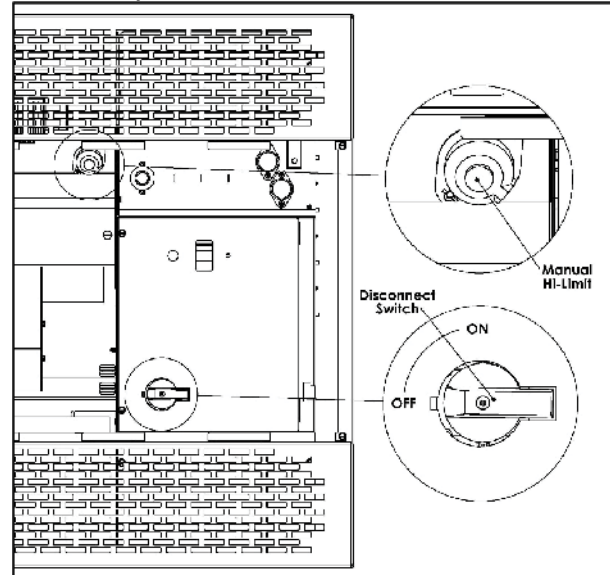

Figure 5
- c. Press the limit firmly until you hear a click (see Figure. 5).
Disconnect Switch - If installed, the disconnect can be used to power off the rest of the heater without cutting power at the main service panel. It is located under the front panel in the controls section of the heater (see Figure. 5).
Note: The "OFF" and "ON" markings shown in Figure. 5 are for reference only. The markings are not present on the panel.